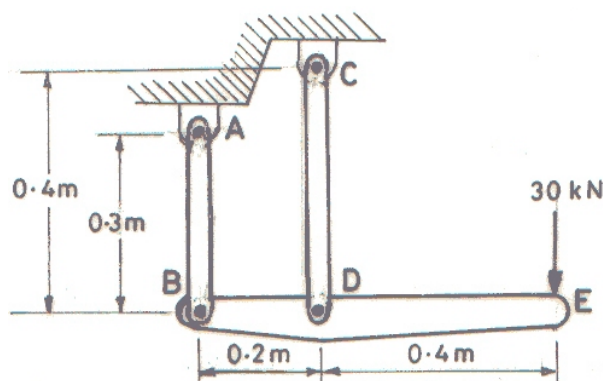

Fig. 2
4. The rigid bar BDE (Fig. 2) is supported by two links AB and CD. Link AB is made of aluminum ($E=70 \text{ GPa}$) and has a cross-sectional area of 500 mm^2 ; link CD is made of steel ($E=200 \text{ GPa}$) and has a cross-sectional area of 600 mm^2 . For the 30 kN force shown, determine the deflection of point B, D and E.